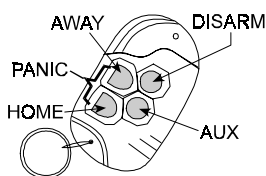

Figure 19. MCT-234
**A. MCT-234** (Fig 19): ‘Keyfob’ transmitter - one unit is supplied with the PowerMax. You can program the AUX (auxiliary) button to perform various tasks, in accordance with the user’s needs.